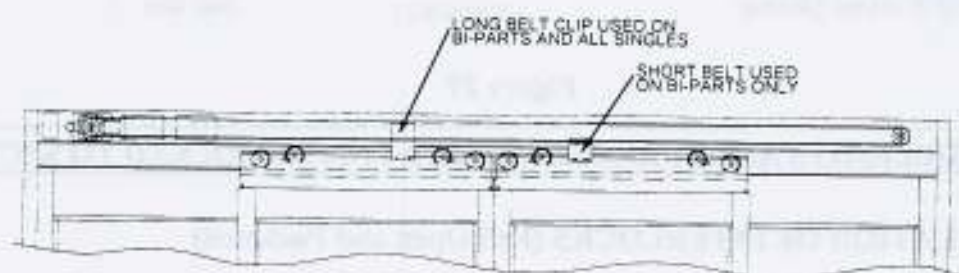

Figure 27
- Attach belt clip(s) using the #12 x 3/4 inch self-drilling/self-tapping screws. Starter mounting holes have been pre-drilled in the door carrier. The belt clips should be installed toward the leading edge of the doors (See Figure 27).